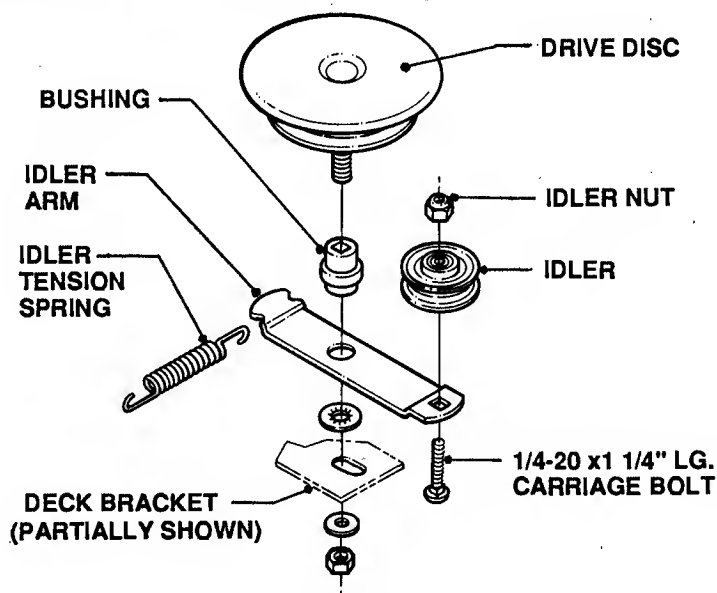

FIGURE 2.21
4. Remove Idler Arm Assembly from Drive Disc Shaft and bushing. See Figure 2.21.
5. Remove idler pulley from idler arm. Refer to Figure 2.21.